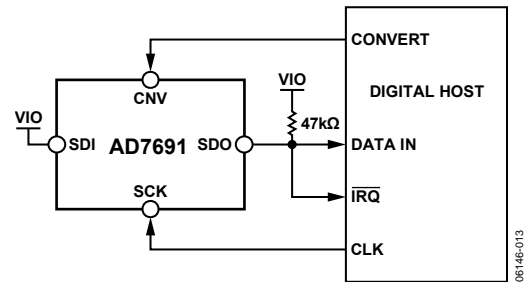
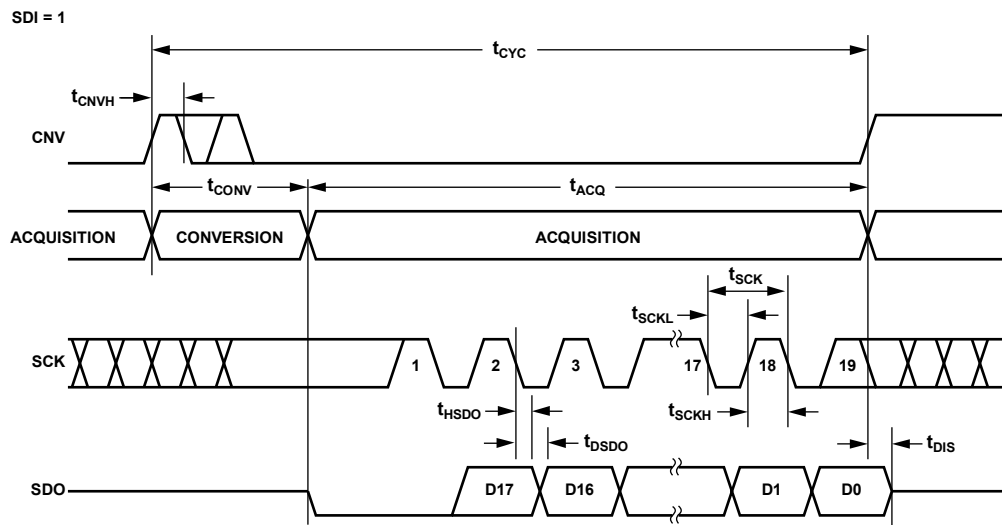
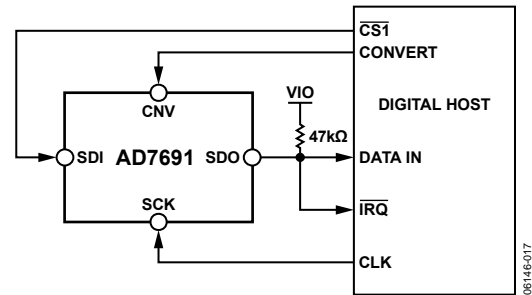
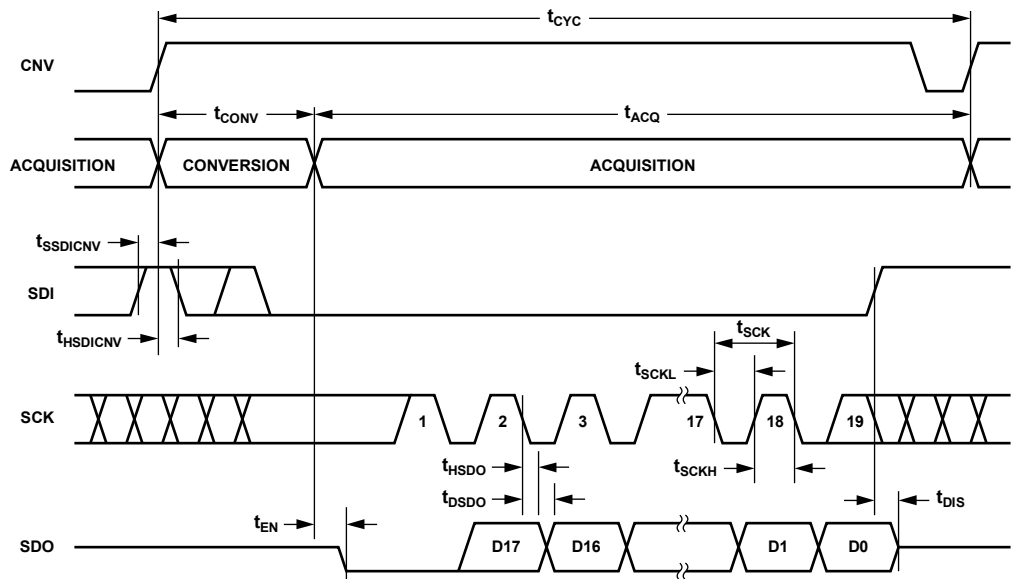

Figure 37. 3-Wire $\overline{\text{CS}}$ Mode with Busy Indicator Connection Diagram (SDI High)
Figure 38. 3-Wire $\overline{\text{CS}}$ Mode with Busy Indicator Serial Interface Timing (SDI High)
Figure 41. 4-Wire \overline{CS} Mode with Busy Indicator Connection Diagram
Figure 42. 4-Wire \overline{CS} Mode with Busy Indicator Serial Interface Timing
- In the \overline{CS} mode if CNV or SDI is low when the ADC conversion ends (see Figure 38 and Figure 42).
The connection diagram is shown in Figure 37, and the corresponding timing is given in Figure 38.
The connection diagram is shown in Figure 41, and the corresponding timing is given in Figure 42.